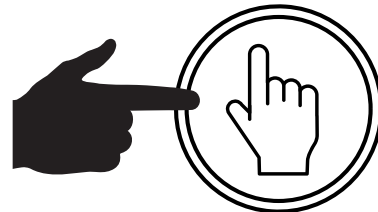

Figure 45. Manual Mode Button
11. Press the **MANUAL** button (Figure 45) on the controller.